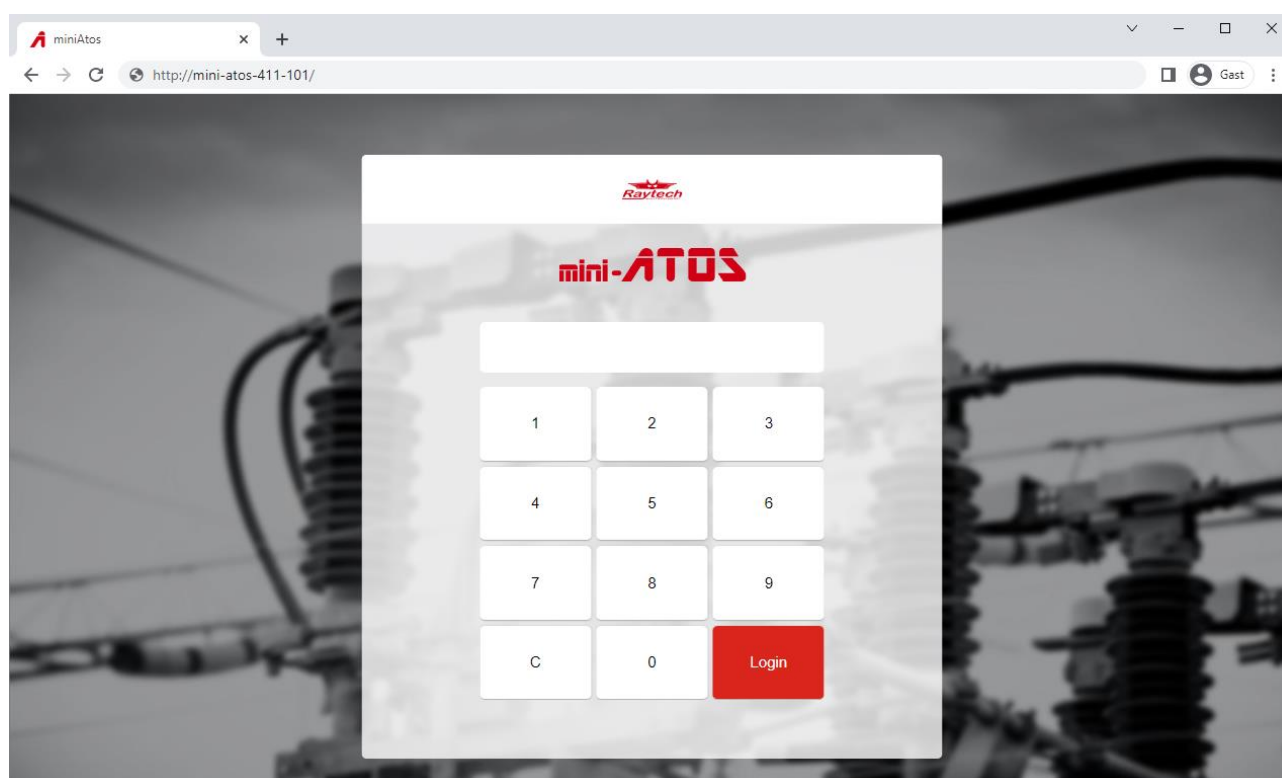

Figure 100: Remote access login page
- 6- Enter the access key and confirm to access the software (Figure 100)